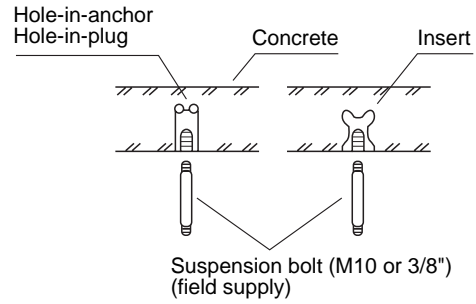

Fig. 2-1
- (1) Fix the suspension bolts securely in the ceiling using the method shown in the diagrams (Figs. 2-1 and 2-2), by attaching them to the ceiling support structure, or by any other method that ensures that the unit will be securely and safely suspended.